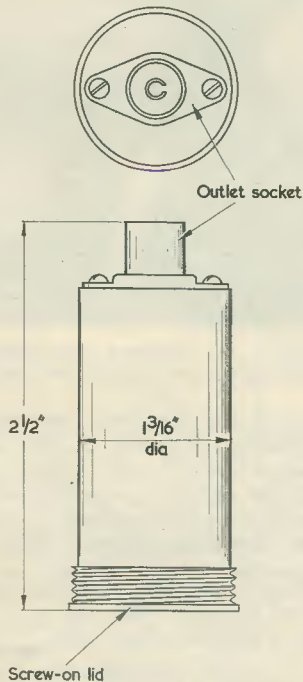

Fig. 3. The case assembly
(16) Take the container and, removing the lid, fix the coaxial socket in position as indicated in Fig. 3, using 6BA nuts and bolts and placing a solder tag beneath one of the nuts on the inside.
(17) Take the free end of the yellow lead emanating from the board assembly and solder it to the coaxial socket centre lug.
(18) Solder the free end of the red lead to the coaxial socket solder tag.
(19) Cut a strip of thin card $1\frac{1}{8}$ in long to exactly fit the inside of the container as a lining.
(20) Take the assembled board and carefully coax it into the container after wrapping a piece of Sellotape around the transistor end to prevent